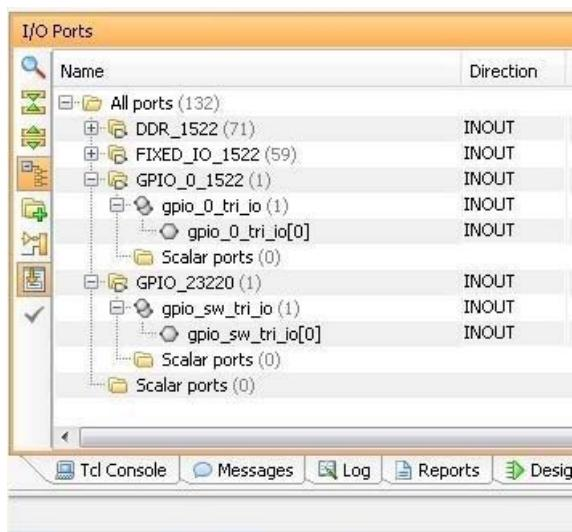

Figure 3-9: I/O Ports Site Map
28. Under the I/O Ports tab view at the bottom of the Vivado window (Figure 3-9), expand the **GPIO_0_1522** and **GPIO_23220** ports to check the site (pin) map.